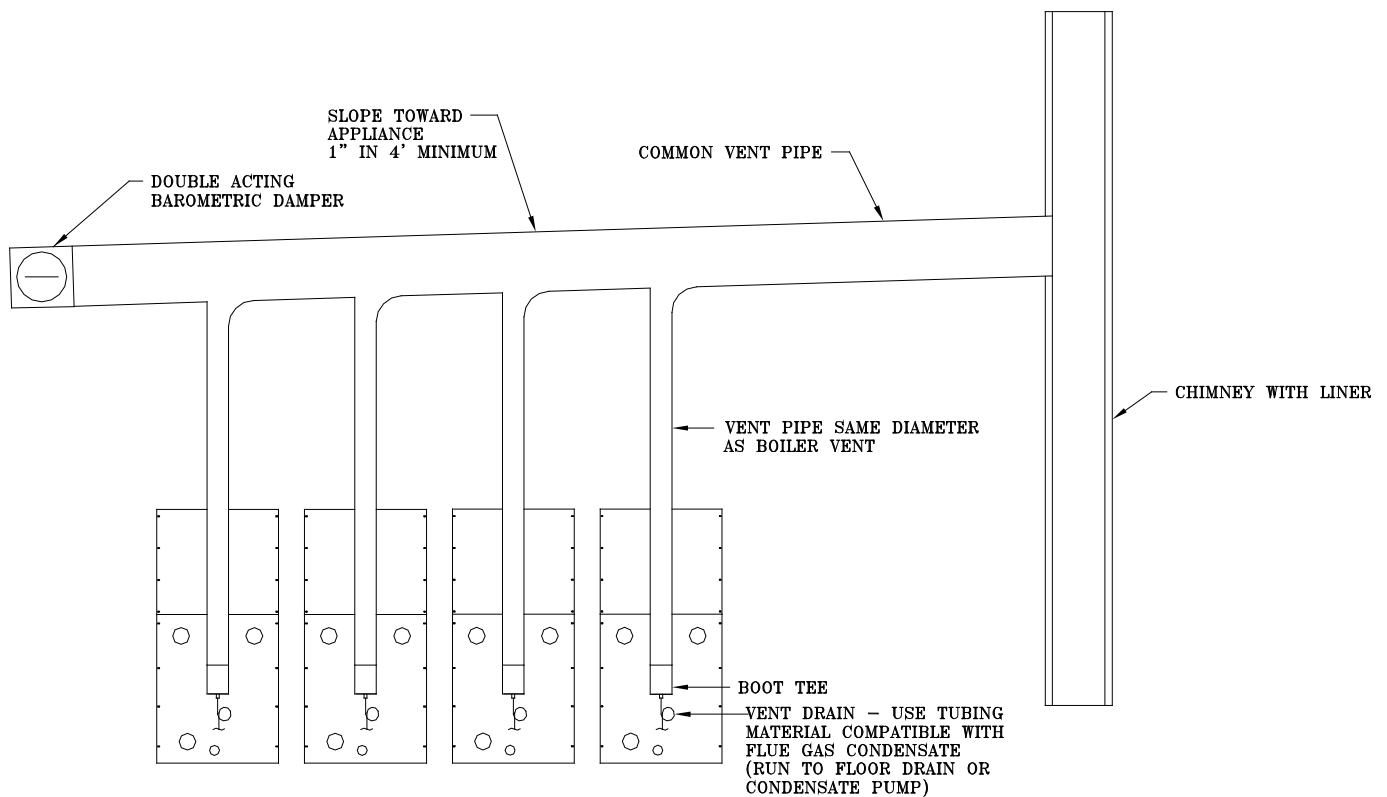

Figure 14: Modular System: Conventional Venting (negative draft)
- i. Refer to Figure 14 for an example of a typical conventional venting arrangement for modular boilers.
- iii. Install a double acting barometric damper with integral flue spillage interlock (as shown in Figure 14).
- vi. Install a condensate drain to collect any condensate that may form in the lined chimney or vertical common vent (refer to Figure 14).